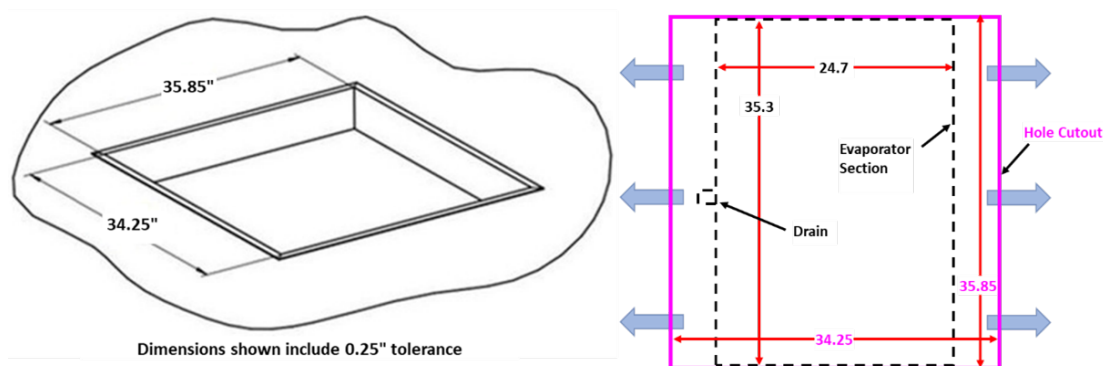

Figure 10 –Installation opening dimensions (inches)
- Chamber Roof – In this configuration, the unit is mounted on the roof of the chamber into the opening shown in Figure 10. The chamber's structure must be reinforced and able to sustain the system's weight.